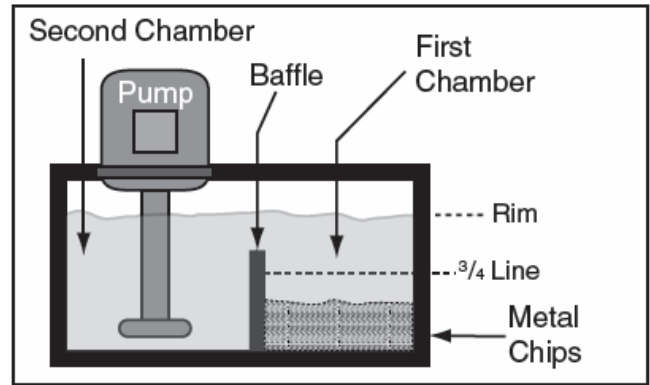

Figure 59
4. Using a wooden stick, check the level of the metal chips in the first chamber (**see Figure 59**). If the chips are $\frac{3}{4}$ the height of the baffle, then remove the chips.